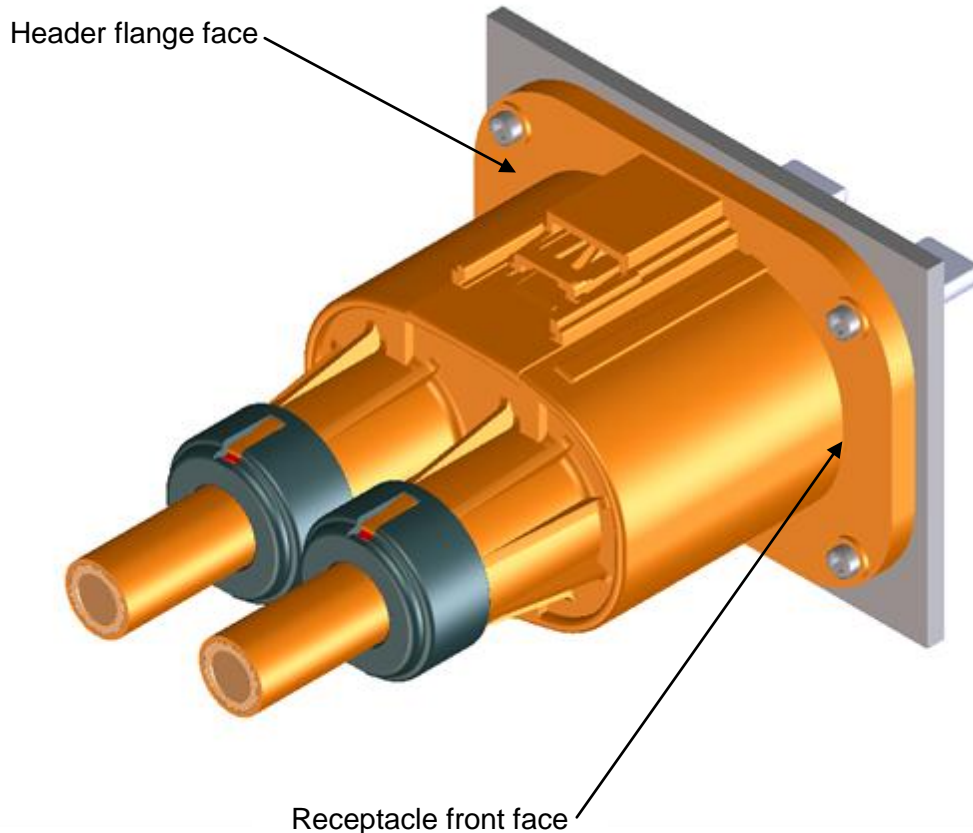

Figure 8
7.2 Push the Receptacle Harness onto position on the Header until an audible click is heard and the receptacle front face bottoms out on the header flange face (Figure 8).